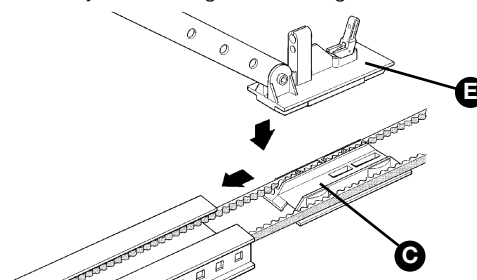

Figure 19
**7** Hook the upper carriage [E] to the lower carriage [C] and place the entire carriage assembly inside the guide, as in fig. 19.